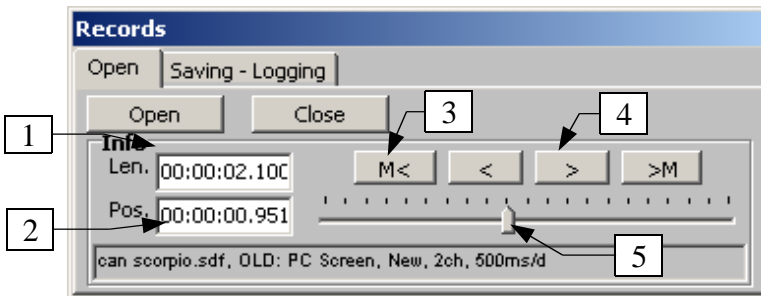
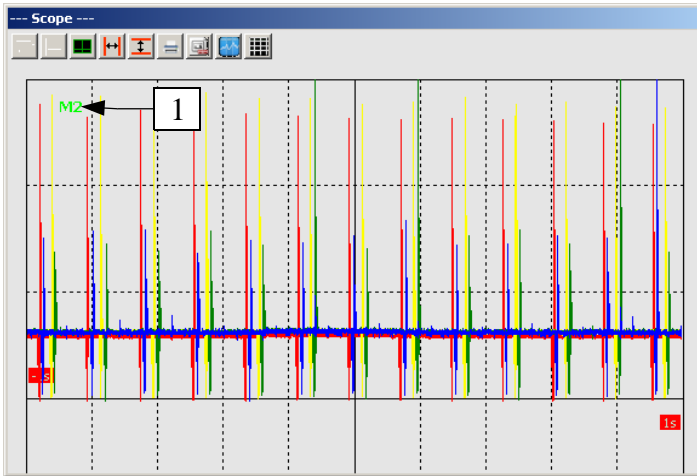

Figure 7.25
Figure 7.26
In the Open tab of the Records window we can find tools for opening and viewing an existing record (Figure 7.25). A dialog window asking you to choose the record file appears after clicking the Open button. After selecting and confirming by pressing OK, the waveform(s) saved in the file appear in the main window (Figure 7.26), and information about the record, such as its name, channel number, timebase setting, its length (1) and current position in it (2) can be found in the Info section. You can move around the record using a scrollbar (5), icons <> (4), or you can jump following the signs by clicking the M< and M> icons (3). An example of a waveform with a M2 mark found can be seen on Figure 7.26. You can use all above mentioned functions such as zoom, measuring cursors, transparency etc. in the window with a loaded record. You can quit viewing the record by pressing the Close icon.